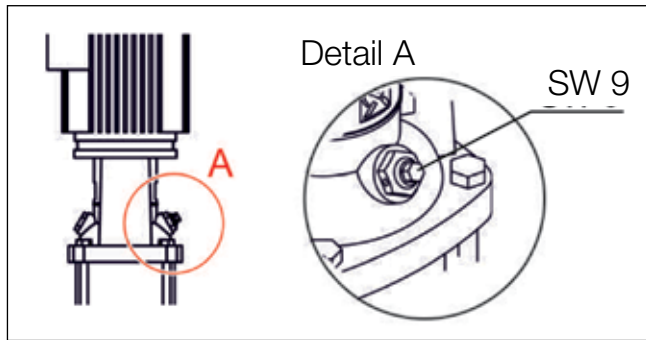

Figure 14: Venting valve on the pressure maintenance pump
Version B: The setting is made using the adjusting dial (2). If the EMCF backfeed module is installed at the factory, this is already set, see sealing strip on the valve (3) (fig. 14).